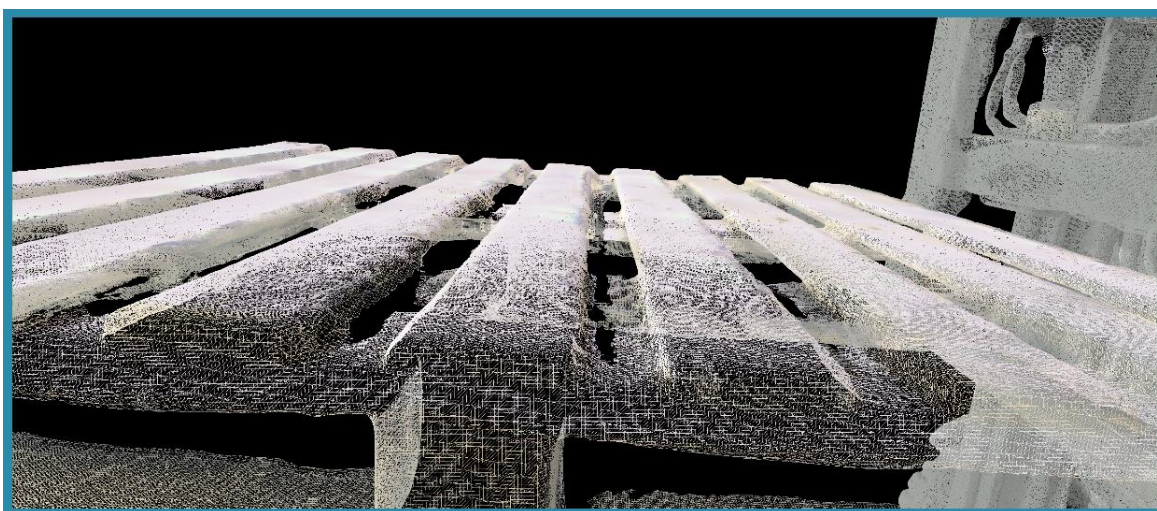

Figure 143 – Rendering Mode toolbar – Wireframe Mode
-  – The **Wireframe Mode** command-button – display the polygons calculated for the creation of the texture (see Figure 143 below).